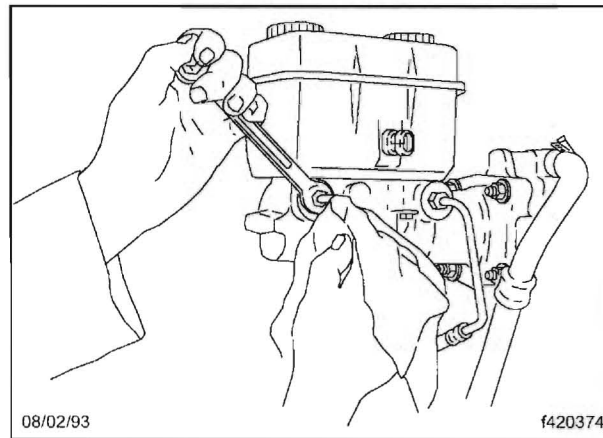

Fig. 6, Front Outlet Port
- 3.7 Using a wrench (and a rag to absorb leaking brake fluid), loosen the fitting at the front outlet port on the master cylinder. See **Fig. 6**. Loosen the fitting about one turn.